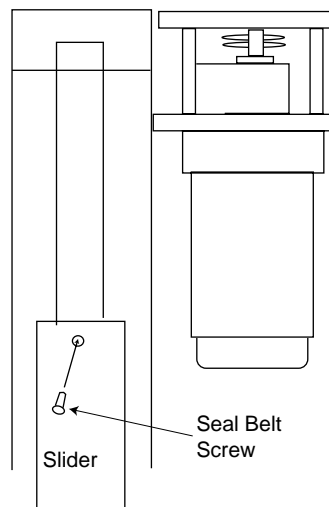

Figure B-15. Fixing Seal Belt
22. Fix the seal belt onto the slider (see Figure B-15).